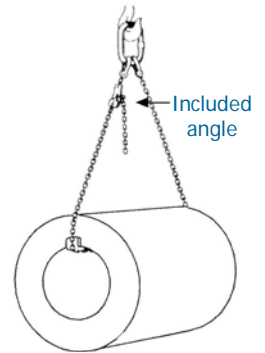

Fig. 19
### 5. Single Adjustable Basket Sling (see Fig. 19)
- A suitable master link must be fitted for two-leg rating. (see Fig. 19)